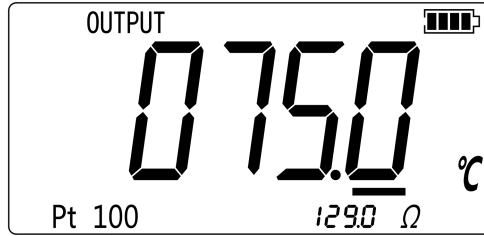

Figure 2.1-5
- Press **▲25%** or **▼25%** to make output increase or decrease within the range of 0% to 100% based on 25% advance amplitude. The screen will display as shown in Figure 2.1-5.